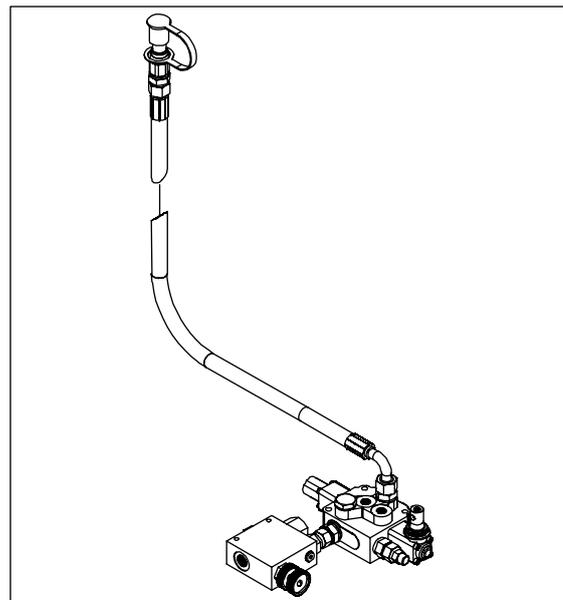

Fig 11. Connecting the tank hose
- Connect the tank hose directly to the directional control valve - see Fig 11.